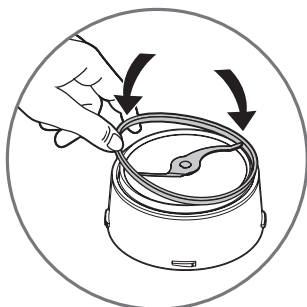
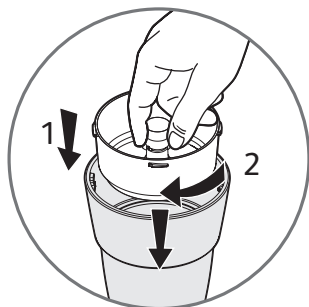

fig.4
fig.5
- This universal mill (F) is equipped with a bowl (f3) that prevents access to the blades during use.
- Rotate the bowl (F) and pour the ingredients.
- Position the sealing gasket (f1) in its recess on the mill blade unit (f2) (figure 4). Position the mill blade unit (f2) on the bowl (f3), and lock the universal mill by rotating the blade unit (f2) through a turn in the clockwise direction (figure 5).